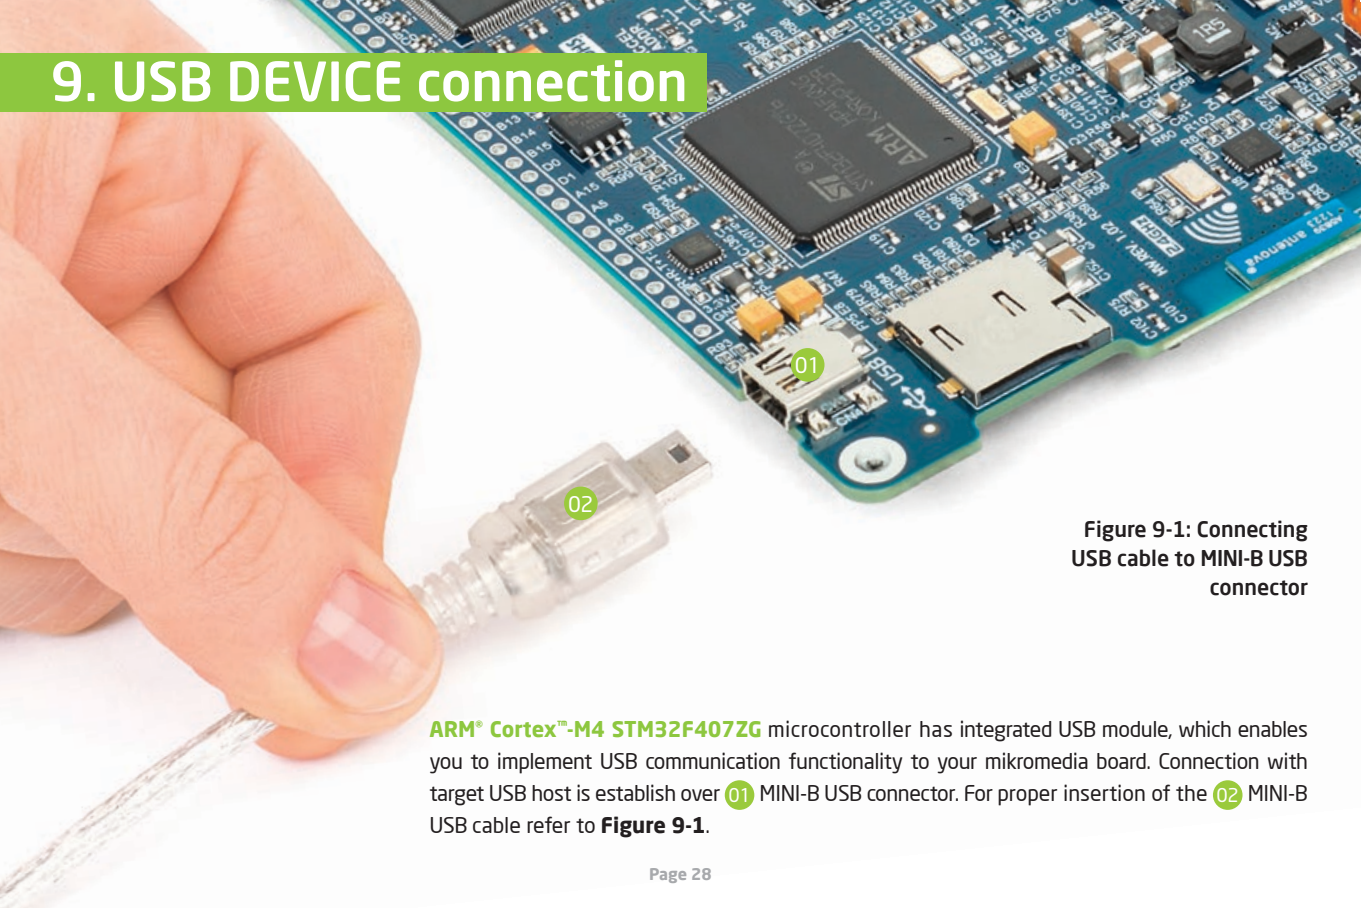

Figure 9-1: Connecting USB cable to MINI-B USB connector
**ARM® Cortex™-M4 STM32F407ZG** microcontroller has integrated USB module, which enables you to implement USB communication functionality to your mikromedia board. Connection with target USB host is established over **01** MINI-B USB connector. For proper insertion of the **02** MINI-B USB cable refer to **Figure 9-1**.